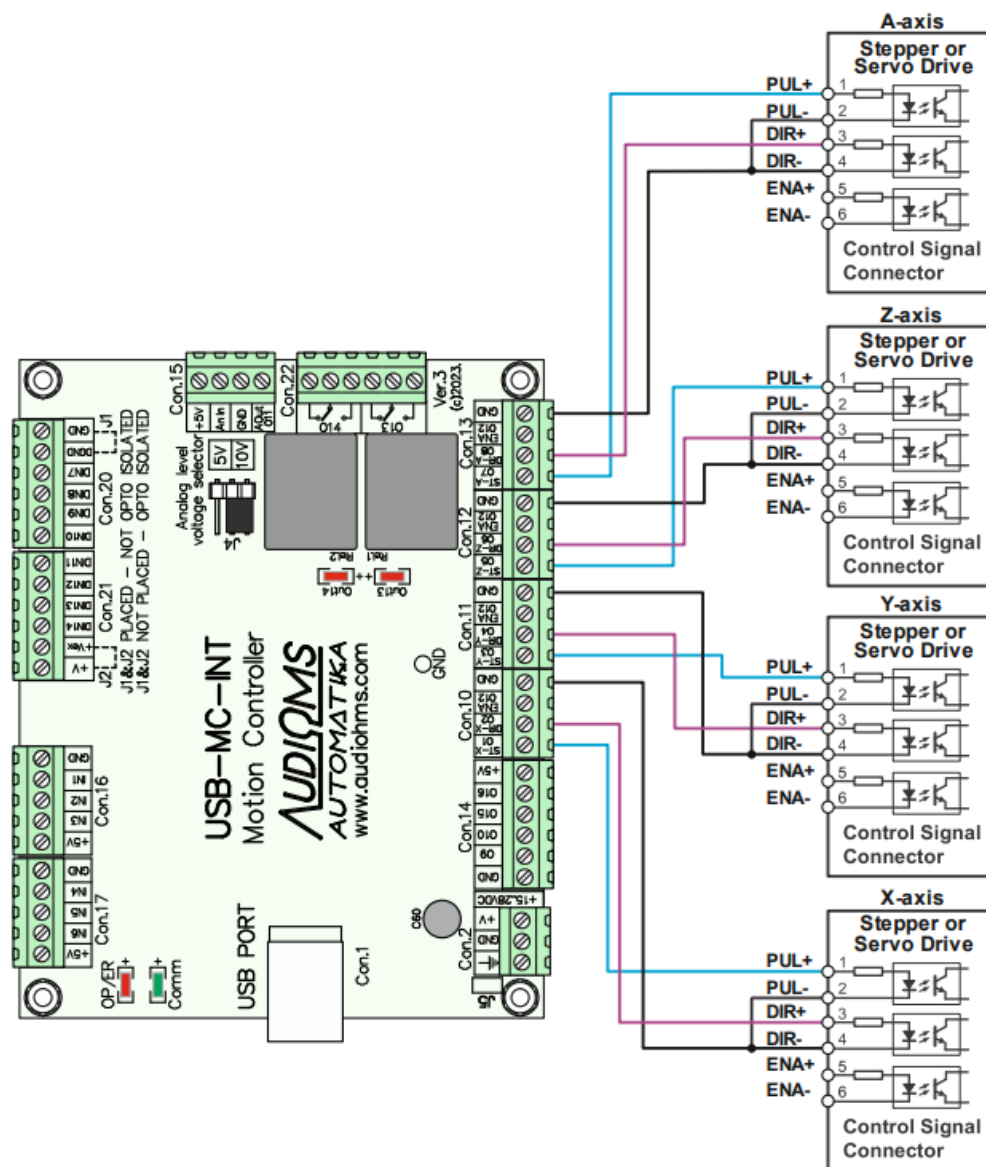

Figure 8.8 Connecting drivers from other manufacturers in the case of inverted logic on ENABLE input
- Some drivers from other manufacturers have inverted ENABLE pin logic. USB-MC-INT motion controller can't support this and in that case doesn't connect ENA+ and ENA- lines (Figure 8.8). That way the driver will always be active.